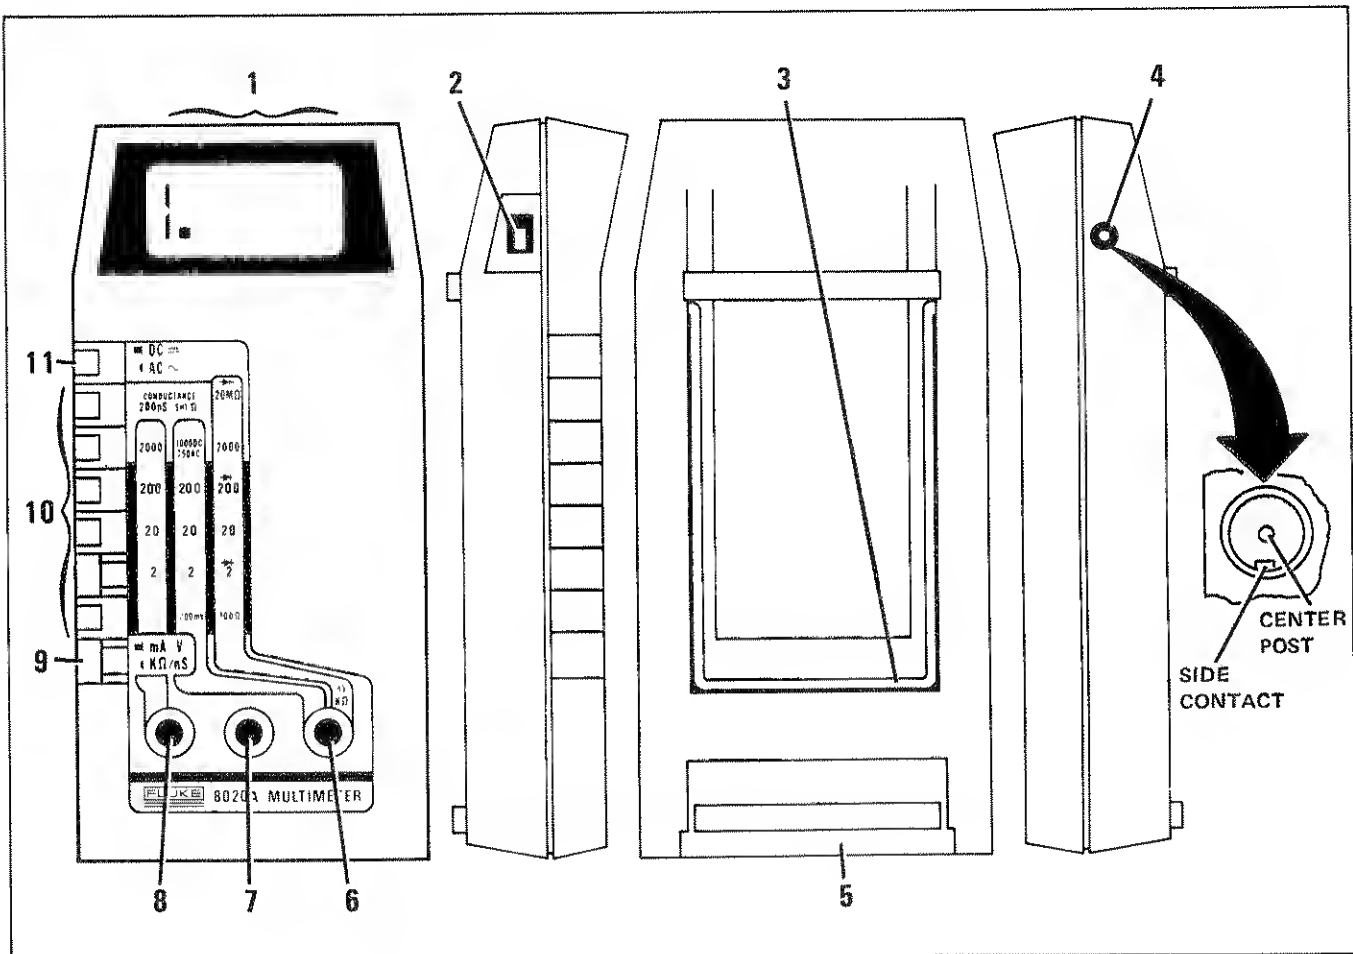

Figure 1-1. Controls, Indicators, Connectors
1-11. All of the buttons, switches, and other externally accessible physical features of the 8020A are shown in Figure 1-1 and described in Table 1-1. Locate each of the features on your instrument as you read the functional description.
- f. Look inside of the battery eliminator connector on the right side of the 8020A and locate the connector contacts (center post and side contact as shown in Figure 1-1).